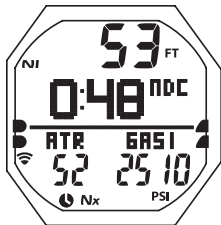

Fig. 76 - NO DECO MAIN
**NO DECO MAIN**, information includes (Fig. 76) -